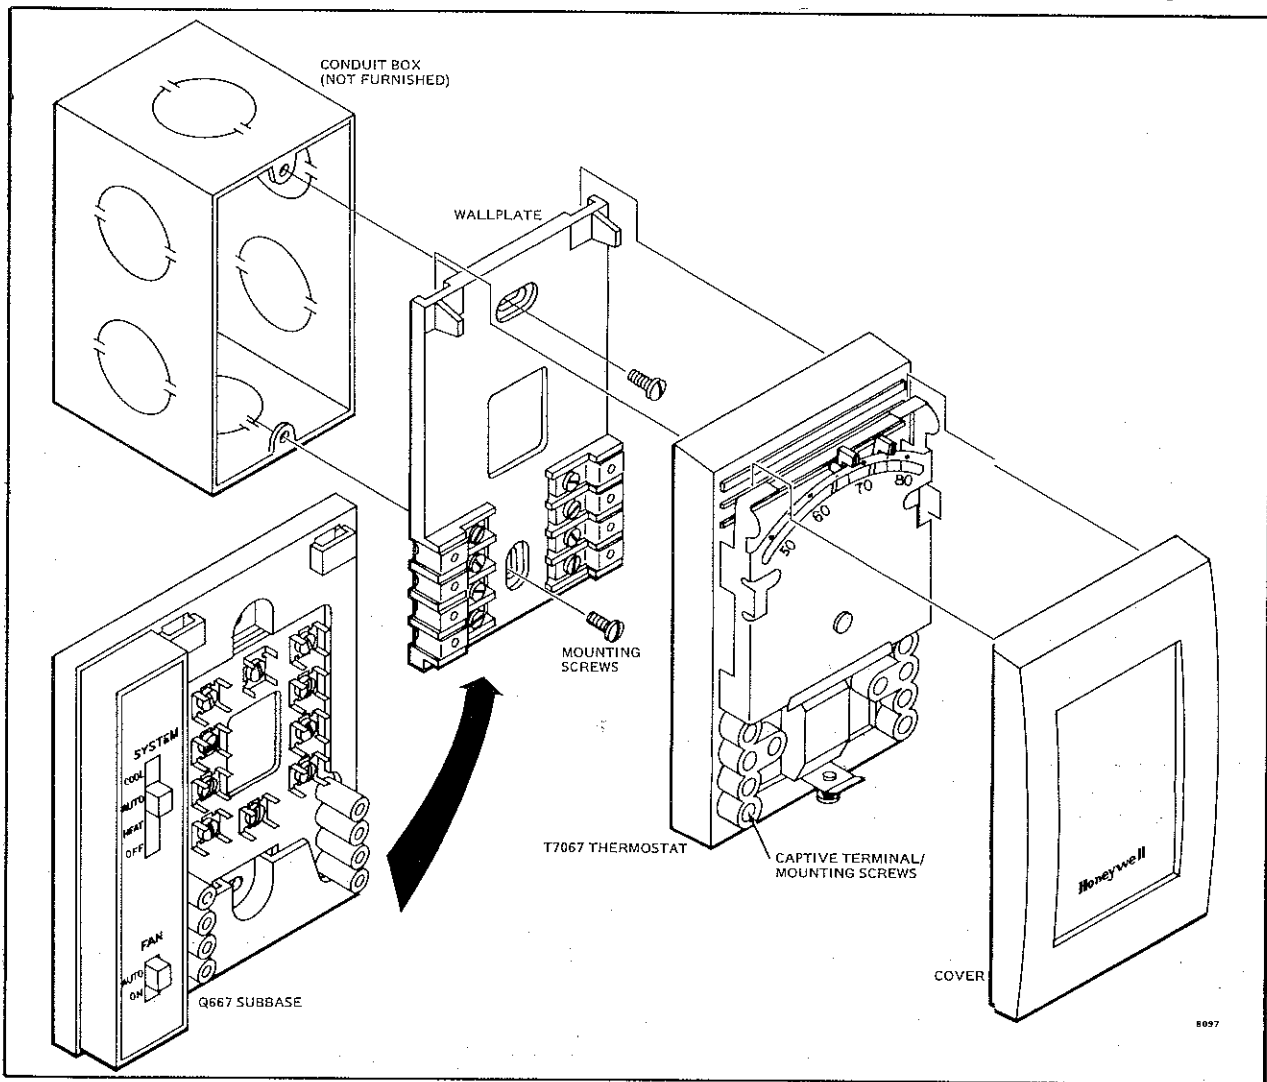

FIG. 2—MOUNTING T7067 THERMOSTAT AND Q667 SUBBASE ON VERTICAL OUTLET BOX. WALLPLATE IS NOT NEEDED WHEN SUBBASE IS USED.
2. Fasten the subbase to the outlet box using two 5/8 in. [15.9 mm], No. 6-32UNC screws provided. See Fig. 2.